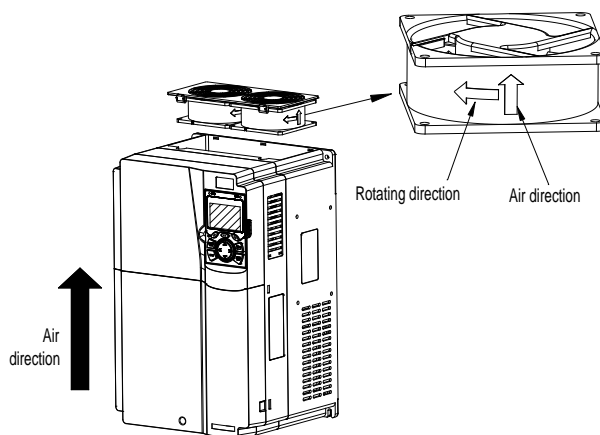

Figure 9-1 Fan maintenance for the 1.5kW and higher VFD models
5. Install a new fan in the VFD in the reverse steps. Assemble the VFD. Ensure that the air direction of the fan is consistent with that of the VFD, as shown in Figure 9-1.